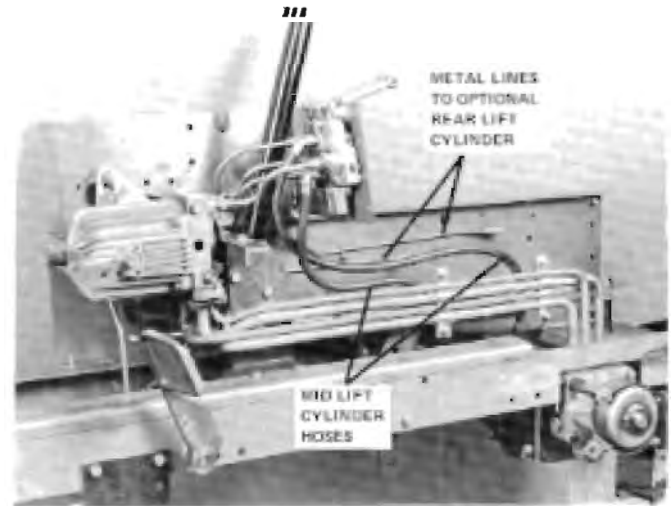

Fig. 7-9 D-Series Hydraulic Hose Routing
2. Disconnect hoses from front and rear of cylinder. Note connections for reinstallation. See Fig. 7-9.